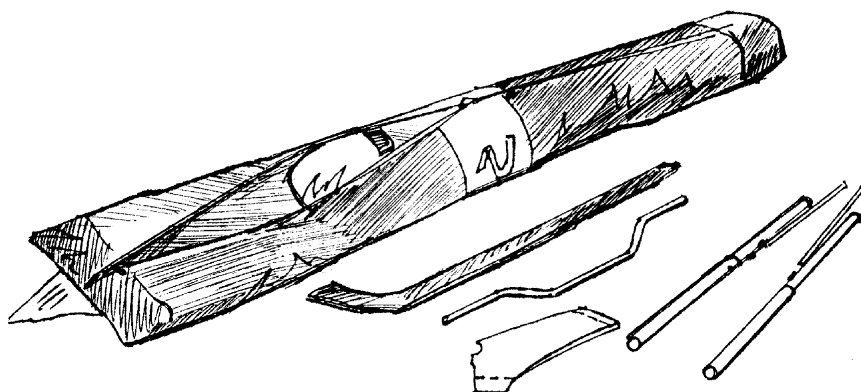

Fig.32
2.3.1. Undo the zipper. Remove the velcro straps. Remove the battens in the bags, the speedbar, the nose cone and assembled N3-N4 leading edge tubes (Fig.32).